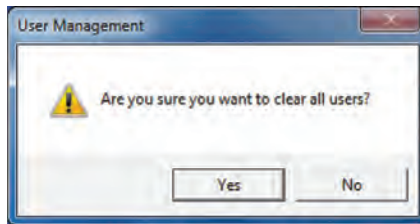

Figure 13. User Management dialog box.
STEP 15. To clear all users click the **Clear** button on the **User Management** window. The **User Management** confirmation dialog box will be displayed. See Figure 13.